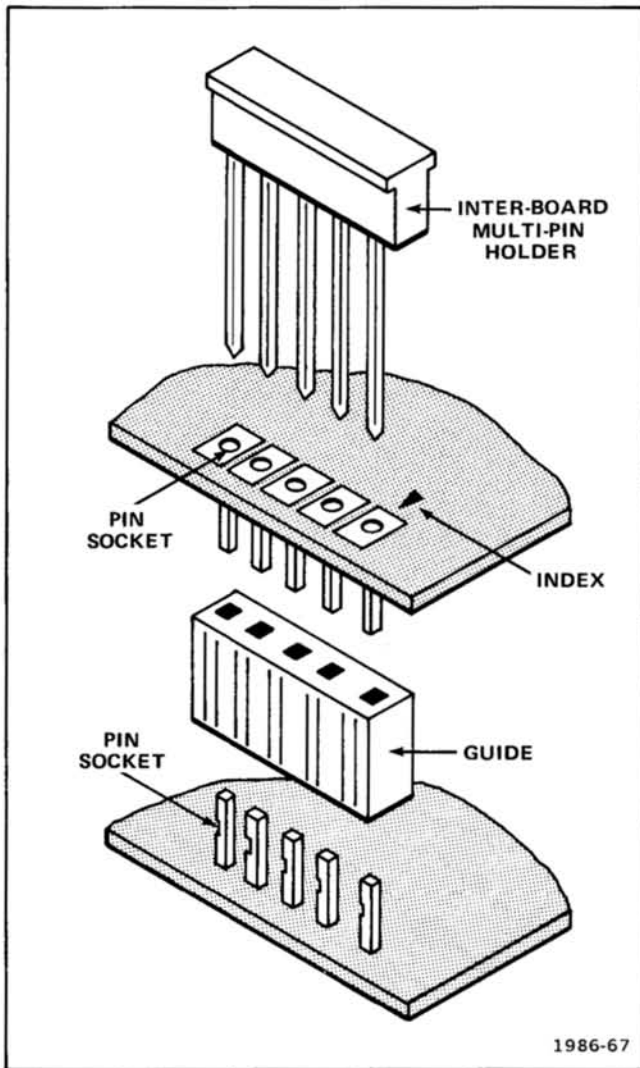

Fig. 4-3. Inter-board multi-pin connector assembly.
The inter-board pin connector sockets are installed on circuit boards, in groups of 5 sockets (as in Figure 4-3). Socket number 1 is indexed on the circuit board with either a triangular mark or the number 1. Each group of sockets is identified by its J (jack) number etched on the circuit board. The J numbers correlate to the J (jack) and P (plug) circuit numbers on the schematic diagrams.
1. Remove 3 inter-board multi-pin connectors (see Figure 4-3 for identification).